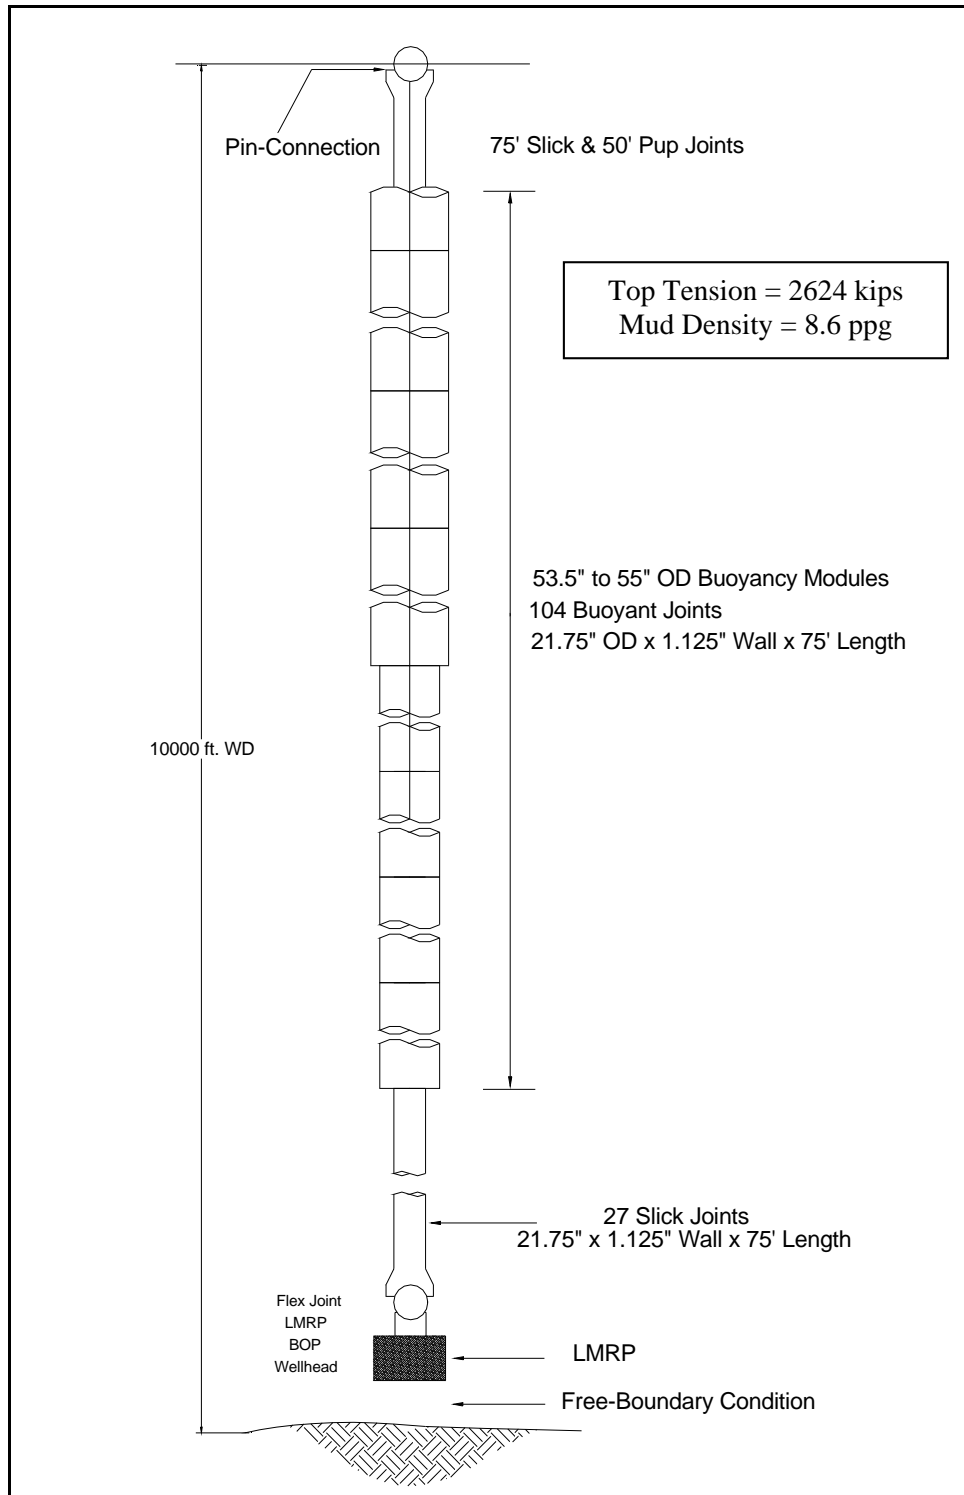

Figure 5.2 Example Problem 2:
- Example 2 is the above example in disconnected, or hang-off, condition (Figure 5.2);